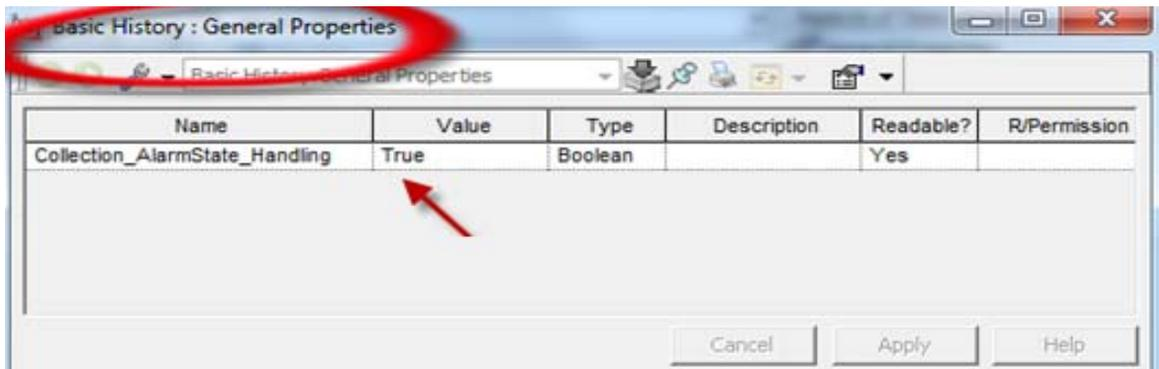

Figure 327. Basic History Window
4. Change the **Collection_AlarmState_Handling** general property on the basic history service node to **TRUE** as shown in Figure 327.